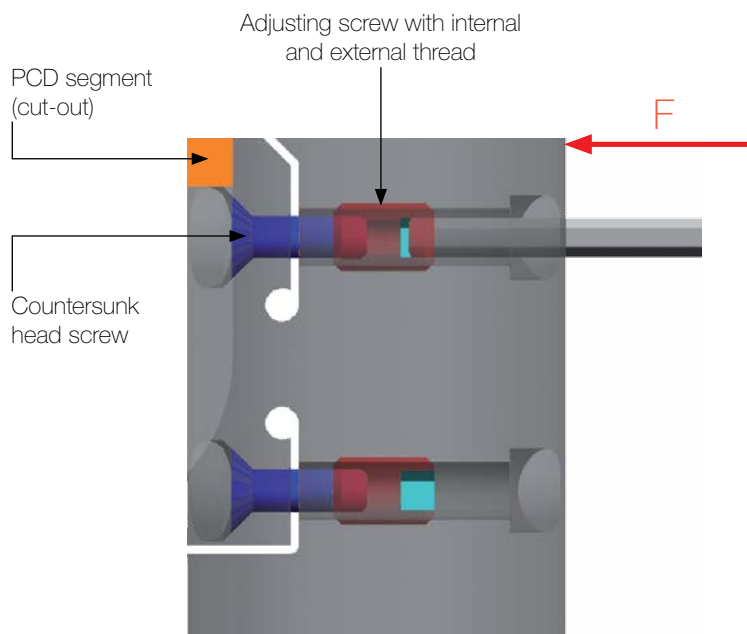

FIG. 1:
1. First, turn adjusting screw 1 clockwise and adjust to approximately 10 μm **above** the diameter setting dimension (see FIG. 1 and FIG. 3)